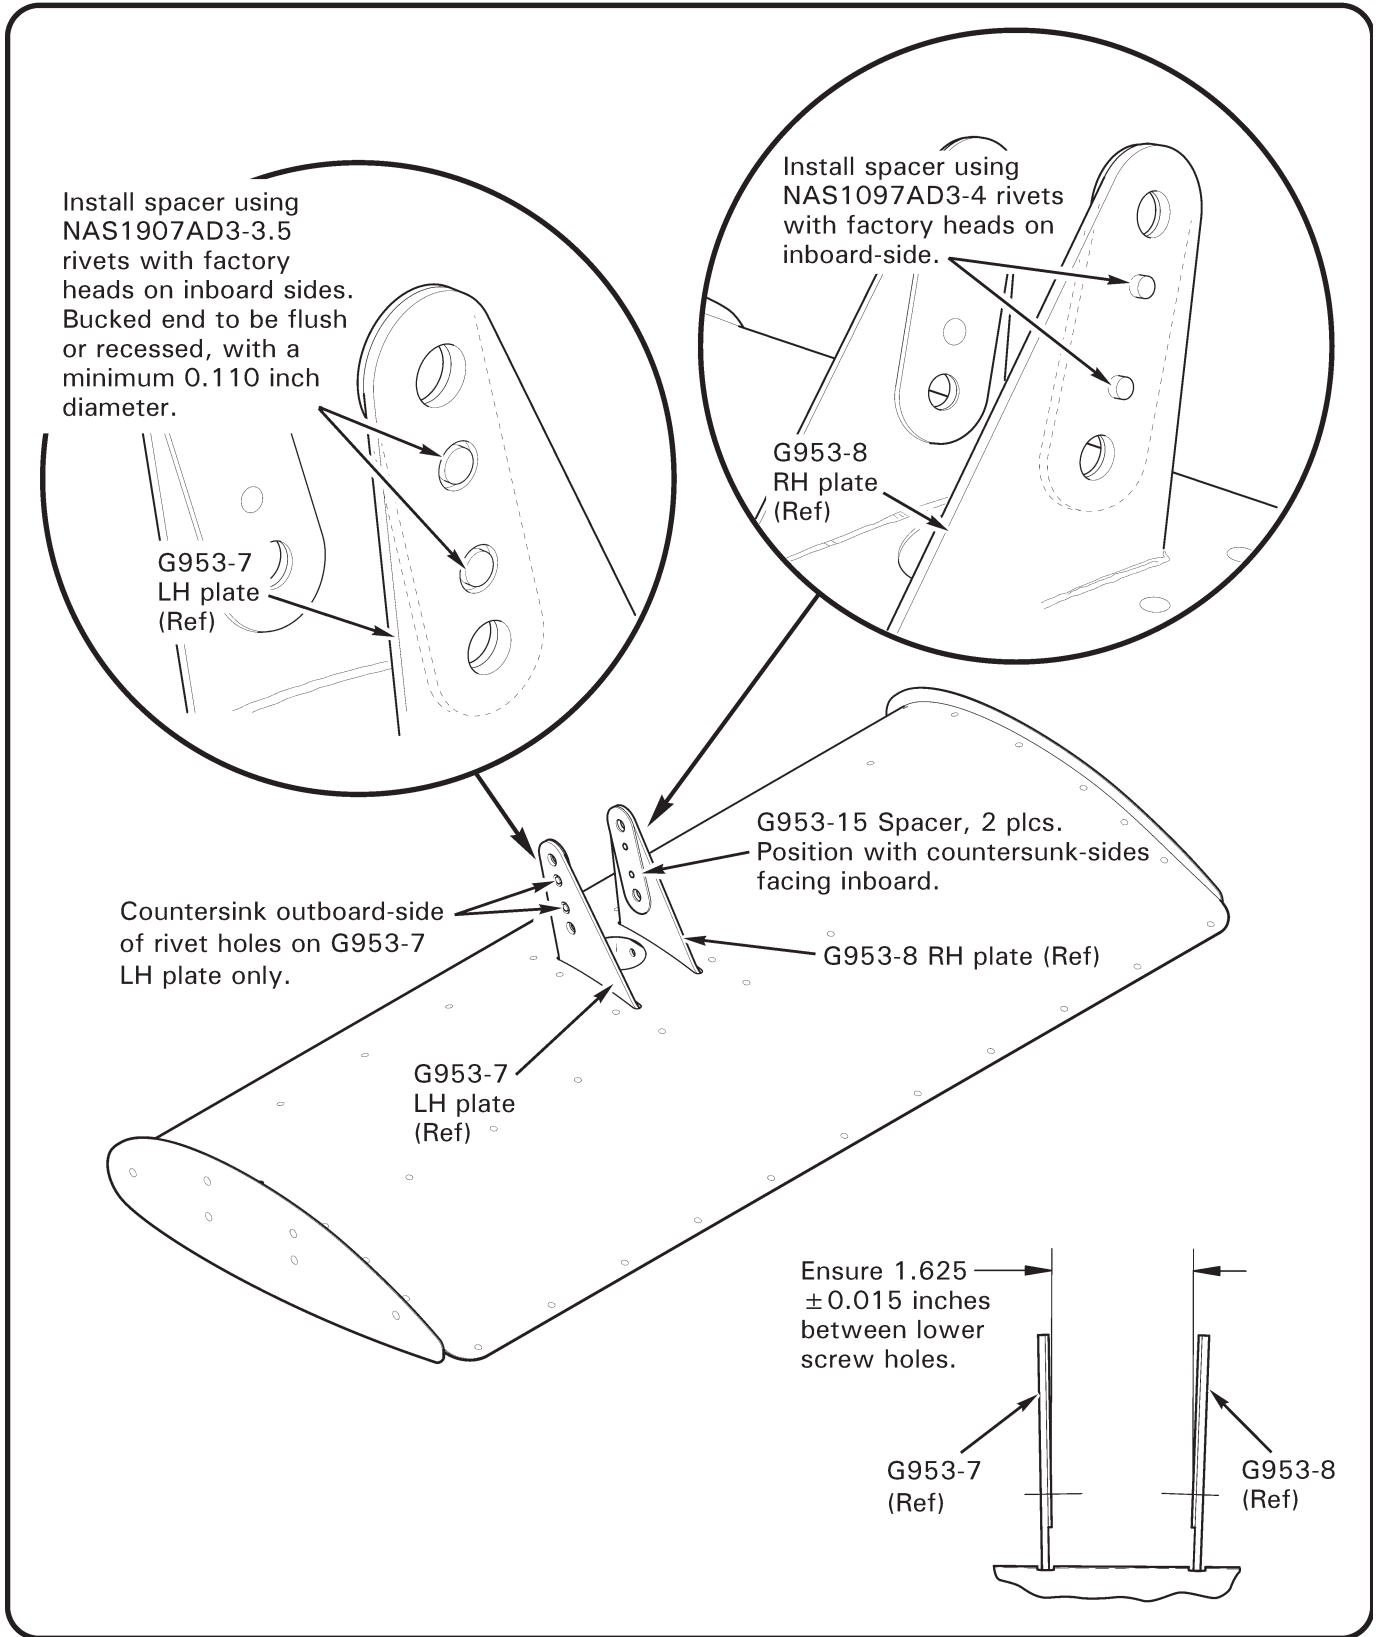

FIGURE 1 Installation of G953-13 spacers
2. Refer to Figure 1. Using G953-15 spacers as template (on outboard faces), match drill two 0.097–0.102 inch diameter (rivet) holes on G953-7 & G957-8 plates. Remove spacers and deburr holes.